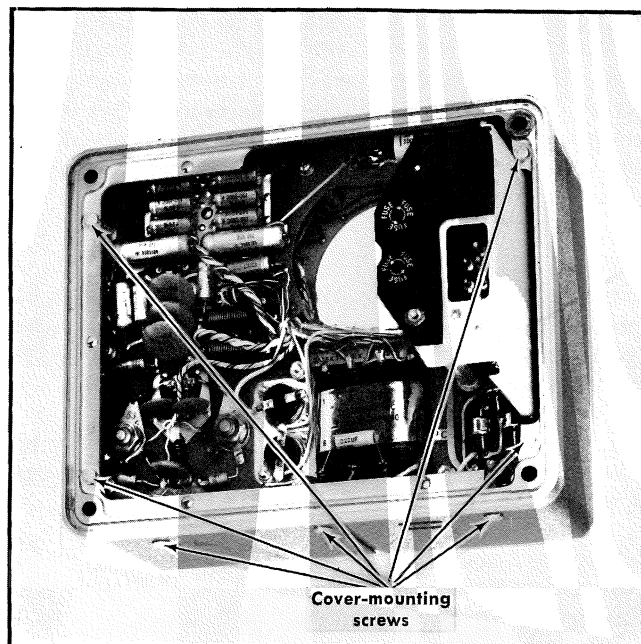

Fig. 4-1. Location of cover mounting screws on rear and bottom of AC-DC Power Supply.
3. Remove the four screws located in the trim casting and the three screws located on the bottom (see Fig. 4-1).